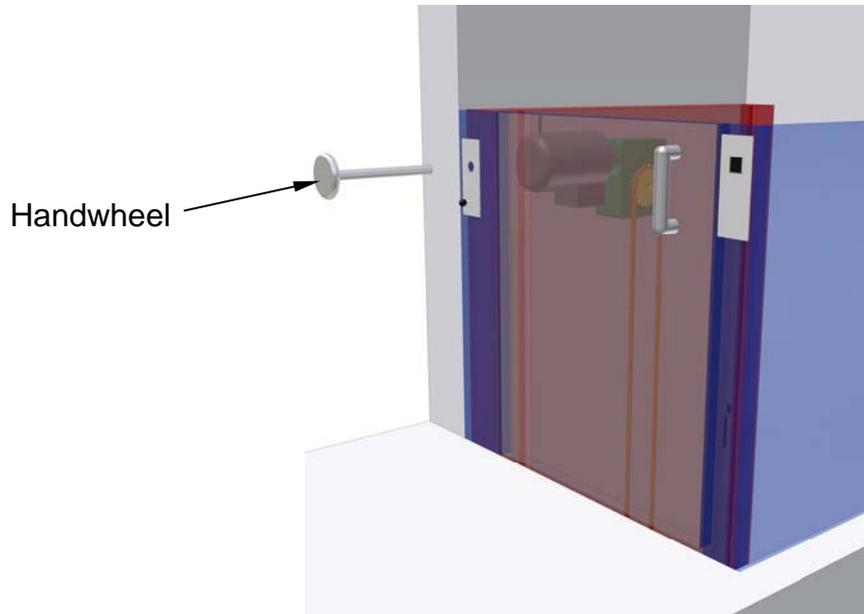

Abb. 1
2. Put the handwheel into the opening planned for it. (Planned position is always in highest stop beside the door, as per fig. 1)